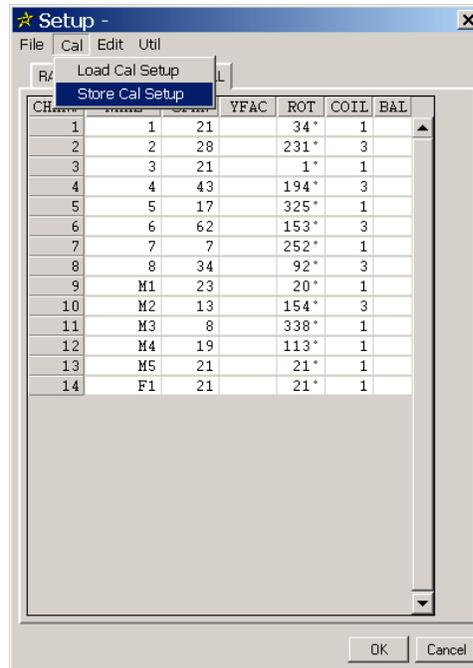

Figure 10-21. Setup Dialog - Storing the Cal Setup
- STEP 35:** As shown in Figure 10-21, select *Cal | Store Cal Setup*. A message appears in the *Status Bar* at the bottom of the main acquisition screen showing the name of and where the *Setup* file was saved.